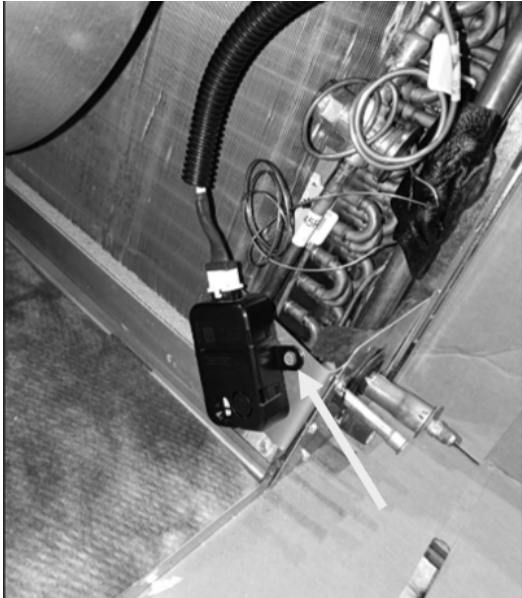

Figure 8 - Replacing Sensor to Bracket
- 3) Remove installed A2L sensor from bracket by removing two screws as shown in Figure 8. (use existing screws to install new sensor)
- 4) Attach new sensor to bracket using two existing screws. See Figure 8